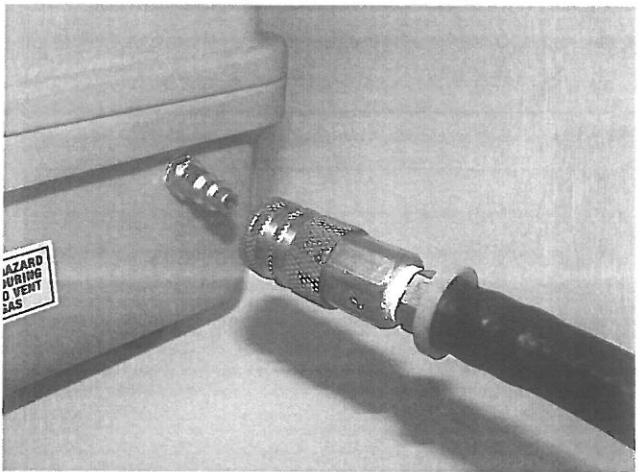

Fig. 1-4
1. Connect the quick connect hose from the pad to the side of the unit (Fig. 1-4).